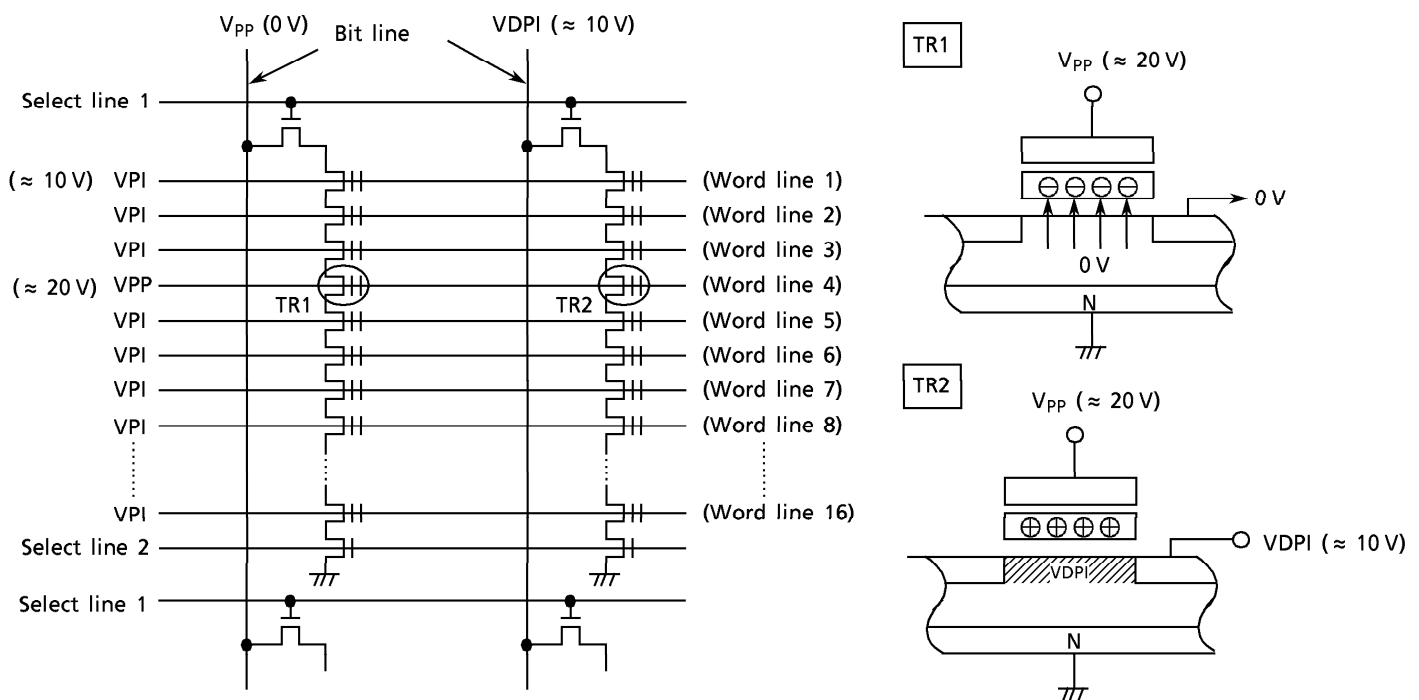

Figure 3. TC58A040 Program Device Physics
Figure 3 shows the NAND memory cell level details of the programming mechanism. The Program operation is used to write “0” data into an erased memory cell (“1” data cell) using a tunneling mechanism. An example Program operation to program “0” data into TR1 and “1” data into TR2 is as follows:
- (1) A high level is applied to Select line 1 and a low level is applied to Select line 2 so that the device is connected to the Bit line and disconnected from the ground line.
- (2)  $V_{pp}$  (to 20 V) is applied to the selected word line and an inhibit voltage of  $V_{PI}$  ( $\approx 10$  V) is applied to the unselected word lines.
- (3) 0 volts is applied to the bit line tied to cell transistor TR1 and the inhibit voltage  $V_{DPI}$  ( $\approx 10$  V) is applied to the bit line tied to TR2.
- (4)  $V_{pp}$  is applied between the control gate and the channel in TR1, as shown in Figure 3, which causes electrons to be injected from the channel to the floating gate by a tunneling.
- (5) The injected electrons are captured in the floating gate (surrounded by an oxide layer) and will remain, even after power is cut off, until they are removed by an Erase operation.
- (6) Although 20 volts is applied to the control gate of TR2, the voltage difference between the control gate and the channel is only 10 V because the voltage of the channel is 10 V. Therefore, tunneling does not take place (i.e. the electron is not injected into the floating gate.)
- (7) Tunneling does not take place in the unselected pages because of the 10 V ( $V_{PI}$ ) applied to the unselected word lines which makes the voltage difference between the control gate and channel only 10 volts.